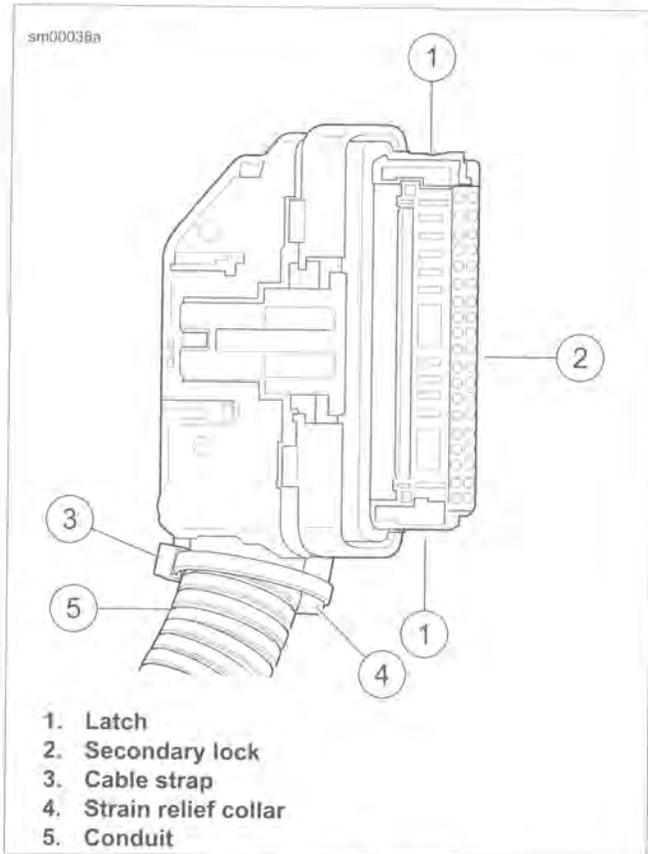

Figure A-12. Delphi 100W Micro-Pack Sealed Connector
1. See Figure A-12. To remove, gently press latch (1) on each side of the clear plastic secondary lock (2). For best results, release one side at a time.
2. Carefully cut cable strap (3) to free strain relief collar (4) from conduit (5).